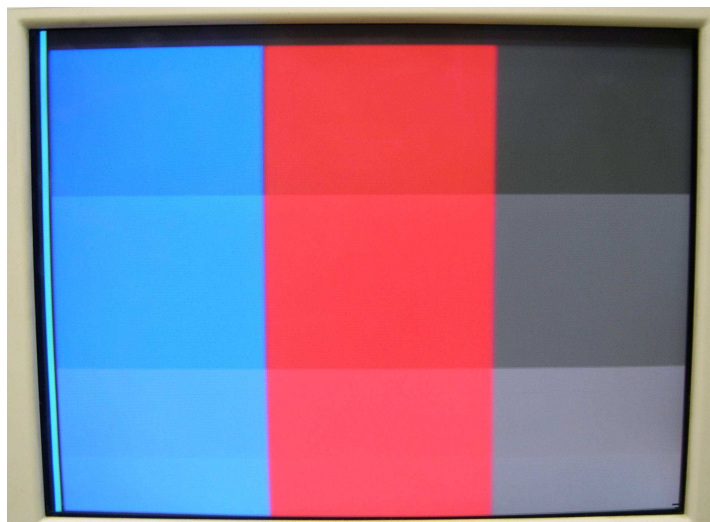

Figure 8.1. The output of TREX C1 as a NTSC/PAL Color Pattern Generator
- ✓ Connect the TV output jack of the TREX C1 board to your TV (Video In Jack). You should be able to see the color pattern shown in Figure 8.1